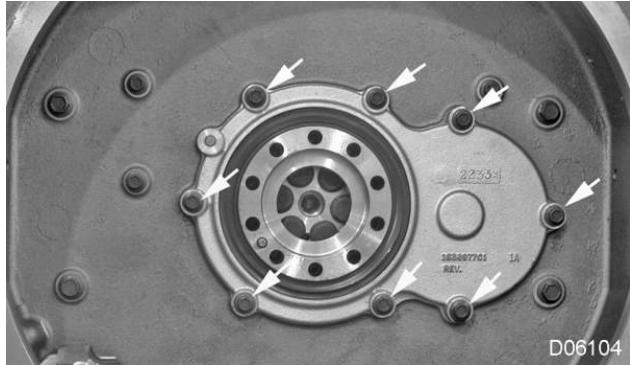

Figure 5 Remove Rear Oil Seal Retainer Bolts
5. Remove eight rear oil seal retainer bolts (Figure 5).